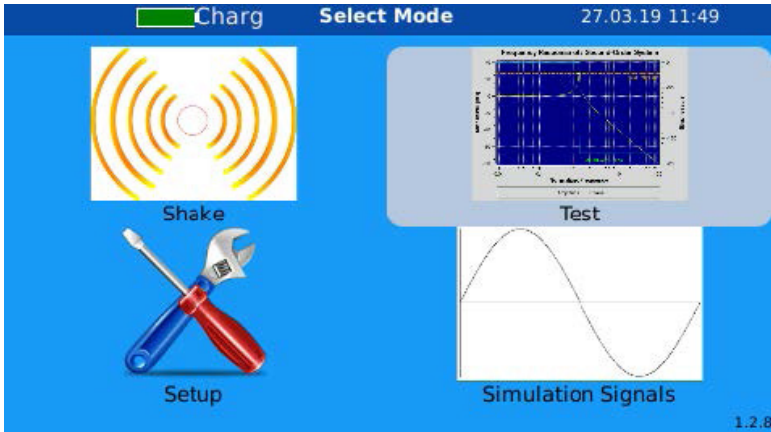

Figure 94. Choose "Test" from the main menu
- 4. Select **Test** from the main menu (Figure 94).